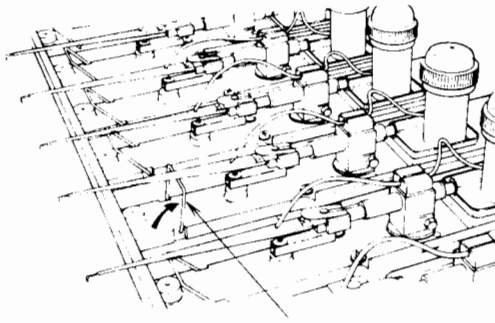

Figure 3
(1) POWER	Pressing the POWER switch(1) lights the Power Lamp(2) and supplies power to the instrument. Pressing the switch again turns the power off.
(2) Power Lamp	Lights when the power is on.
(3) STOP-CHECK-RUN	Controls the chart drive mechanism and recording pen deflection in a single operation.
(4) MARKER	While this switch is pressed, a step identification mark is superimposed on the timing signal.
(5) CHART SPEED	<p>Selects the chart driving speeds with the combination of a black button and grey buttons.</p> <p>Black button: Selects the major chart driving speed modes of MM/SEC or MM/MIN. In MM/SEC, a timing mark is recorded every second. When the MM/MIN button is depressed, the speed mode changes to the MM/MIN and a timing mark is recorded every minute.</p> <p>Grey button: Press any desired button to select the chart driving speed in the speed mode(MM/SEC MM/MIN) selected by the black button.</p>
(6) Pressure Roller Release Lever	Releases the paper driving roller and the paper is stopped when the lever is turned to the right. When the lever is turned to the left, the paper is driven.
(7) Paper Pressure Roller	A method to apply a pressure to the recording paper. When loading narrow width recording paper, slide the roller to the desired position.
(8) Paper Loading Lever	Pull up the lever to open the paper magazine when loading the recording paper.
(9) Pen Lift Lever	Turn the lever to the right to lift all recording pens. An individual pen lifter is also provided to protect the recording pen tips from damage(See Fig. 3)